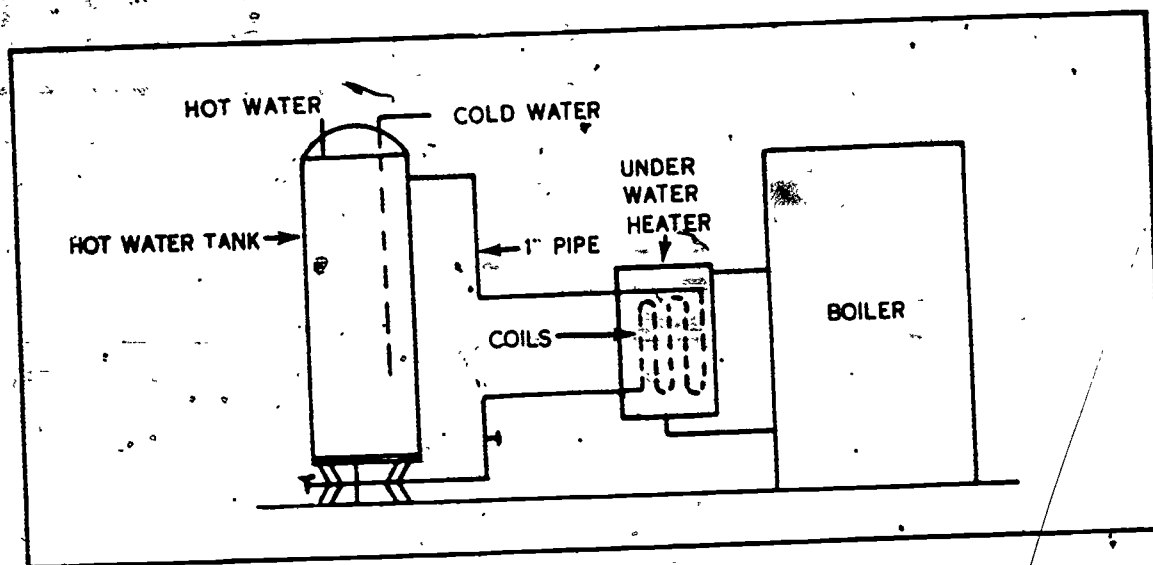

Figure 5-4. Underwater heater system.
**Underwater line heaters.** Underwater line heaters are used in domestic water systems where hot water or steam is used for heating a residence. The body of the heater is constructed of cast iron with a built-in copper coil. The inlet and outlet openings of the coil are connected to the boiler heating plant below the waterline. The boiler water flows around the coils and heats the water. An underwater heater system is illustrated in figure 5-4.